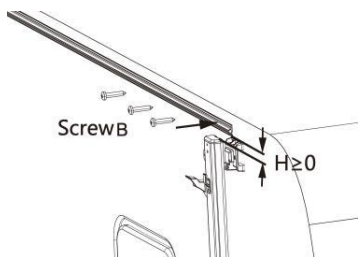
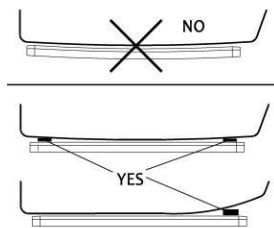

Figure C5
Figure C6
3.3 Take out the vehicle fabric guide rail and fix it to the outside of the vehicle body with screw B. It is recommended to use one screw B every 300mm, and the installation position of the fabric guide rail should not be lower than the top of the support rod (Figure C5). The fabric guide rail should be installed horizontally. If there is a radian on the vehicle body, pad the fabric guide rail flat (gaskets to be supplied by the user) (Figure C6)